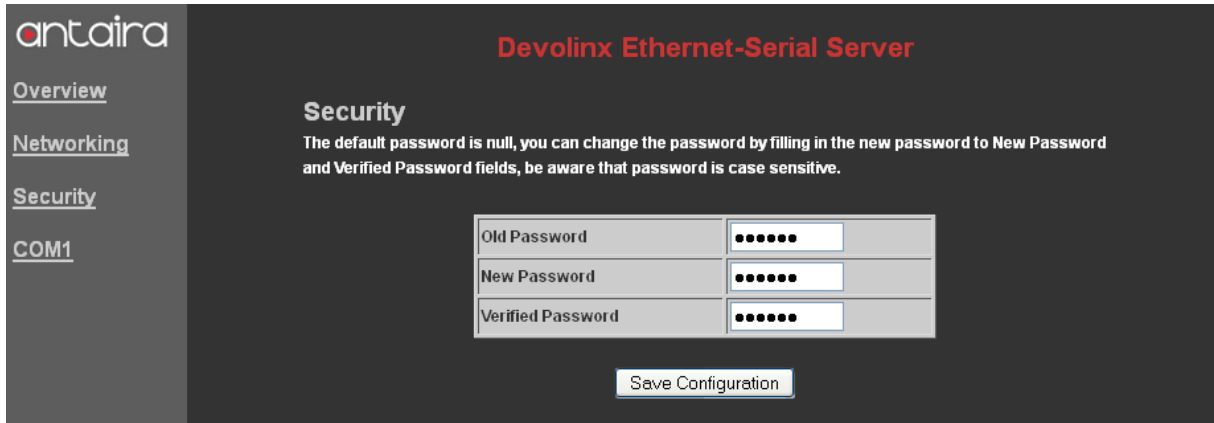

Figure 3.19 Change the password
- Click on the **Security** link and the following screen appears. (*Figure 3.19*)